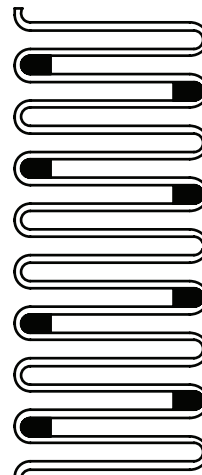

Figure 3 - Coil Spacers for sizes 1100 through 1600T
- C. Sizes 1100 through 1160T** – Insert coil spacers in every other coil as shown in Figure 3. Remaining coil spacers should be distributed evenly among any open coils.